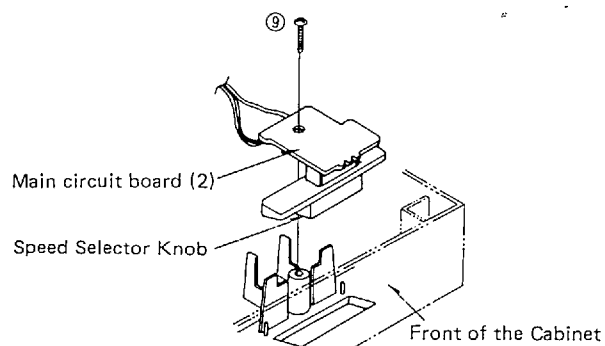

Fig. 3
Remove the main circuit board (2) setscrew (Fig. 3: ⑨) and pull out the speed selector knob.